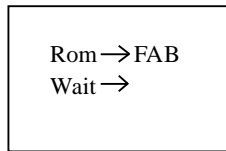

Fig. 4.20
2. Press”→” in the frame shown in Fig 4.20, then the program will be read, block by block (in sequence as B01, B02...)